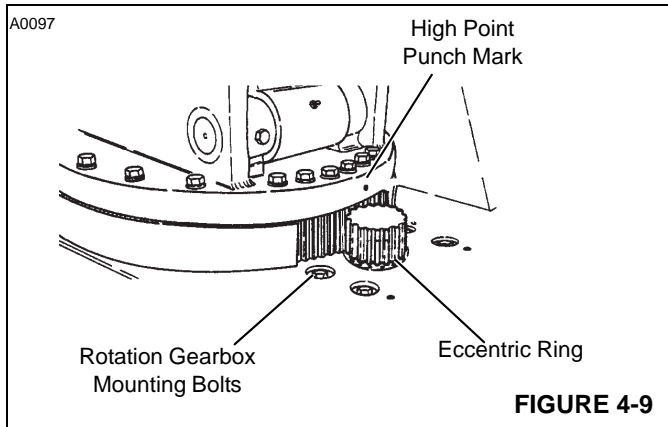

FIGURE 4-9
3. Slightly loosen the four bolts securing the swing gearbox (see Figure 4-9).